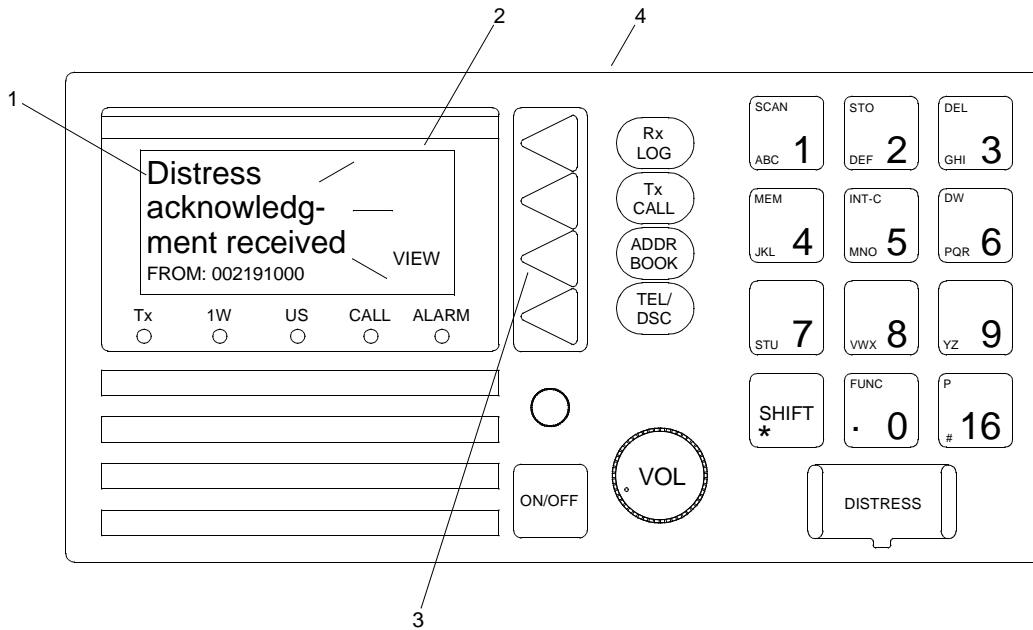

Figure 1. Distress Acknowledgement Received Message
When an acknowledgement is received, the Distress acknowledgement received message (figure 1, item 1) appears in the LCD display (figure 1, item 2) and the distress call will automatically be cancelled.
1. Verify the Distress acknowledgement received message (figure 1, item 1) appears in the LCD display (figure 1, item 2).
2. Press the soft key (figure 1, item 3) to select VIEW on the VHF-DSC transceiver (figure 1, item 4).